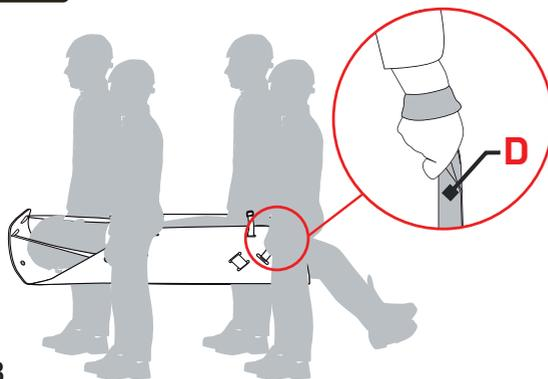

Fig.3
Transport by the handles (D) (fig. 3)	150 kg
The **“HALF ROLLY”** rescue sheet is suitable for lifting and transporting the patient using the side handles (fig. 3), dragging them using the sling (E) (fig. 4), and lifting/lowering them vertically using the static rope (fig. 5 e 6).